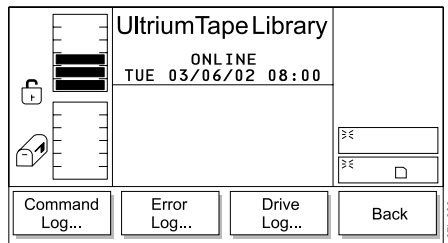

Figure 112. Logs Submenu
2. Press the button below the **Logs** softkey. The Logs Submenu displays (see Figure 112).